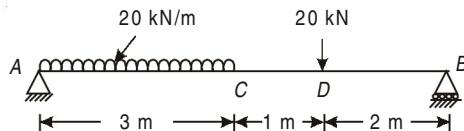

Fig. 4.27
- 4.1.** Determine by Macaulay's method slope and deflection at point *C* and *D* in the beam shown in Fig. 4.27. Take $E = 200 \text{ GPa}$ and $I = 20 \times 10^{-6} \text{ m}^4$.